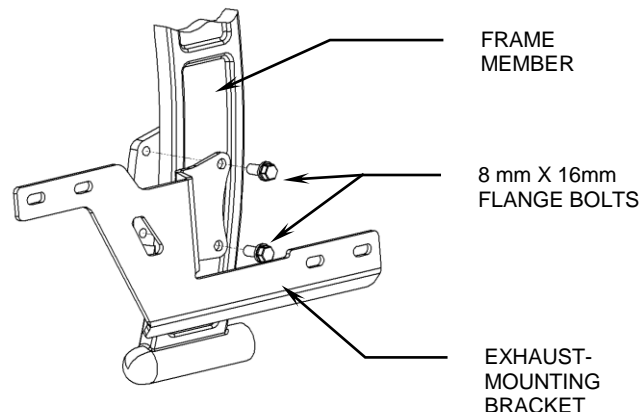

FIGURE 2
9. Install the supplied exhaust-mounting bracket where the stock exhaust bracket was located by inserting the two supplied M8 bolts through the mounting bracket and into the frame, see Figure 2, (do not tighten at this time).